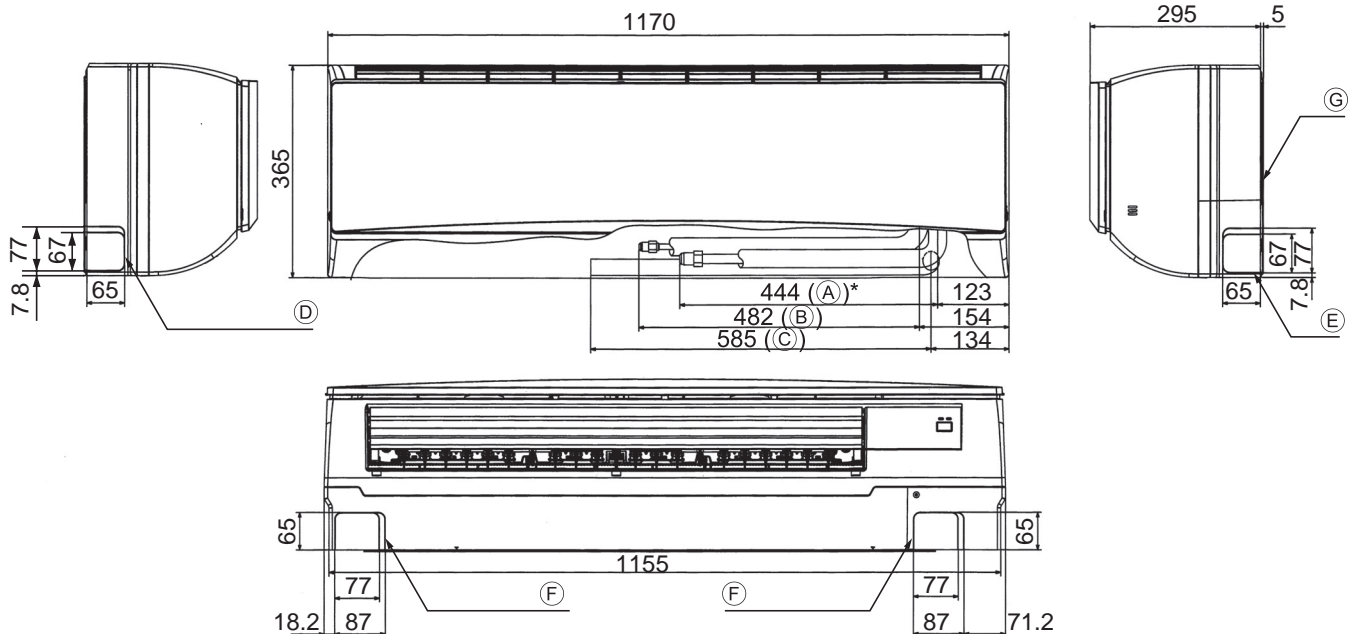

Fig. 4-2
4.2. Positioning refrigerant and drain piping (Fig. 4-2)
- (A) Gas pipe
- (B) Liquid pipe
- (C) Drain hose
- (D) Left-side piping knockout hole
- (E) Right-side piping knockout hole
- (F) Lower piping knockout hole
- (G) Mount board ①